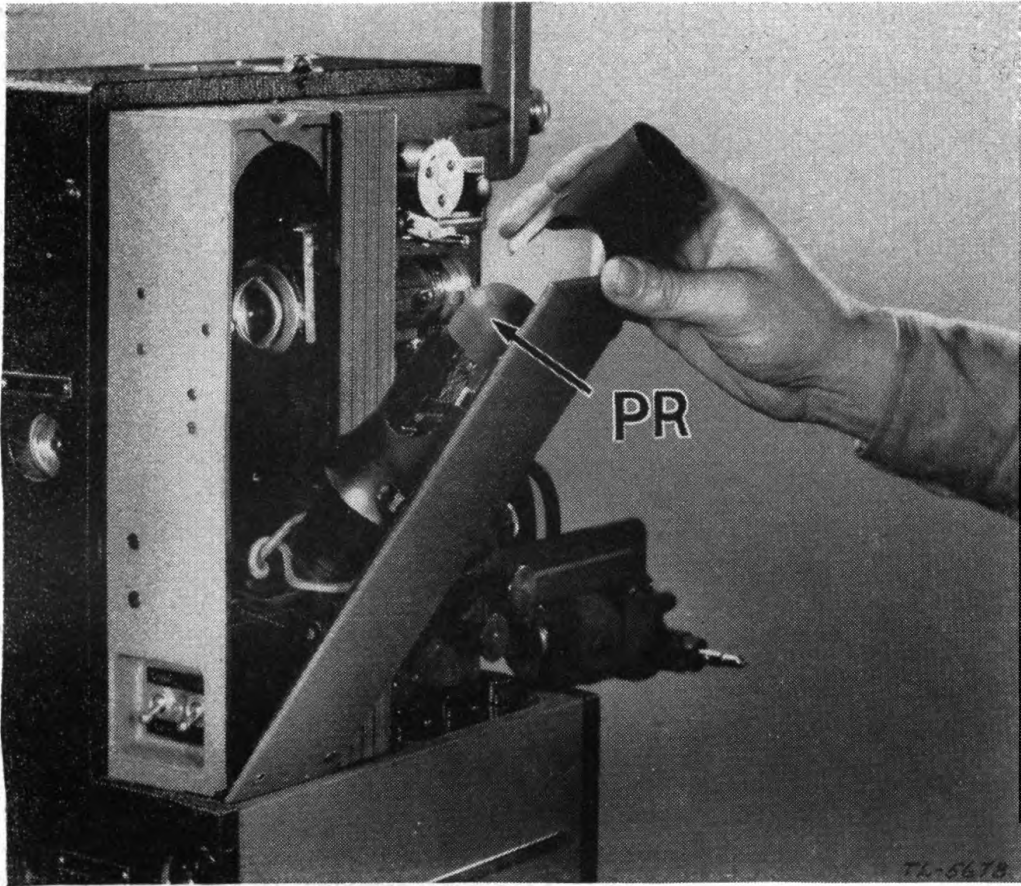

FIGURE 66.—Removing R. C. A. projection lamp.
d. R. C. A.—(1) To replace the projector lamp, place finger in groove at top of lamp house (fig. 66) and pull top of lamp house door outward. Slip off the metal shield and unscrew the old lamp. Replace with new lamp.